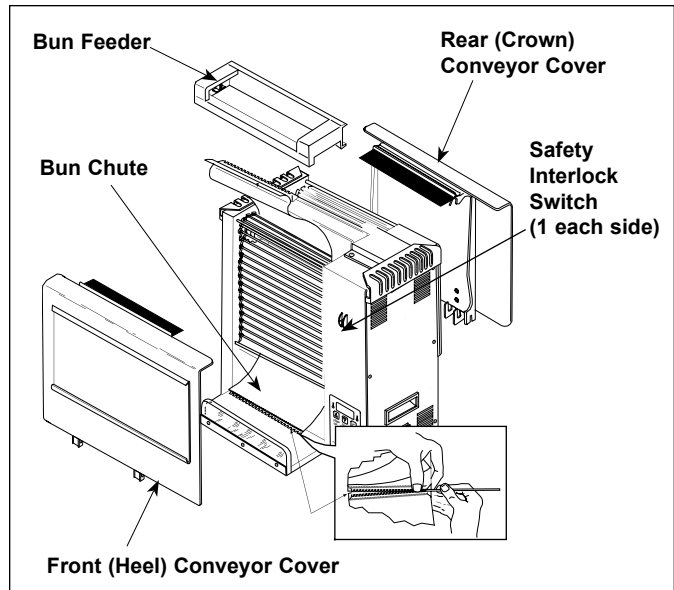

Figure 11. Replacing Groovy Belt
3. Remove the bun feeder and bun chute (Figure 11). Wash them at the sink and allow to air dry.
NOTE: Make sure both conveyor safety interlock switches are activated (depressed) when the covers are closed(Figure 11, page 12) or conveyors will not rotate.
1. Locate hinge flap on belt wrap, if hinge flap is not visible; plug in power cord and turn unit on, press down on both interlock switches (Figure 11) and wait until hinge flap is exposed and centered.
NOTE: Make sure both conveyor safety interlock switches are activated (depressed) when the covers are installed (Figure 11) or conveyors will not rotate.